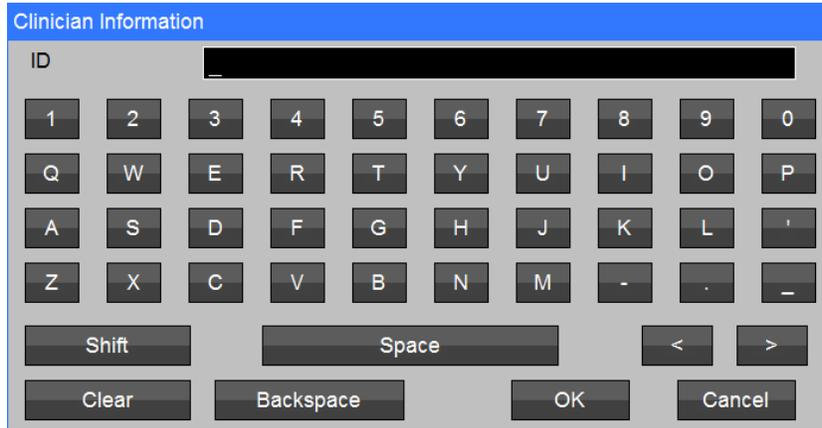

Figure 44: Enter Clinician Information Screen
- 2) Use the keyboard (refer to Figure 44) to enter Clinician specific information.